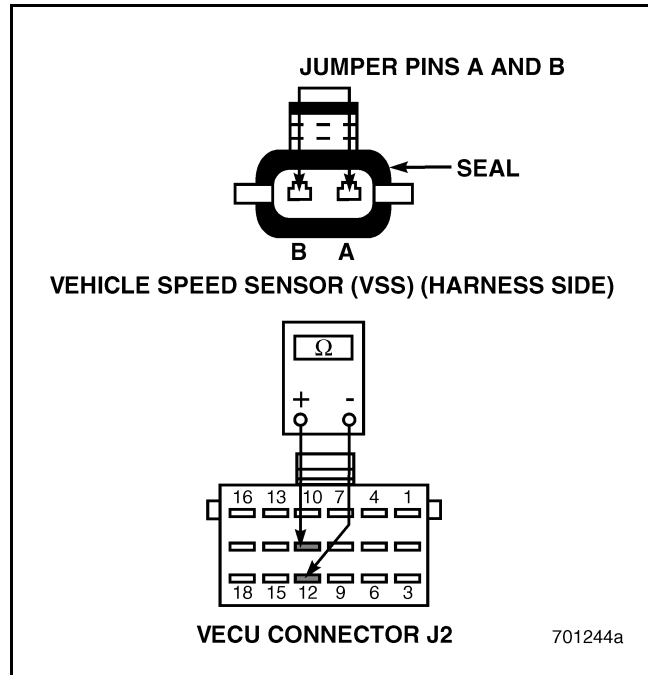

Figure 443
5. Check for continuity between VECU connector J2 pin 11 and J2 pin 12 (see Figure 443).